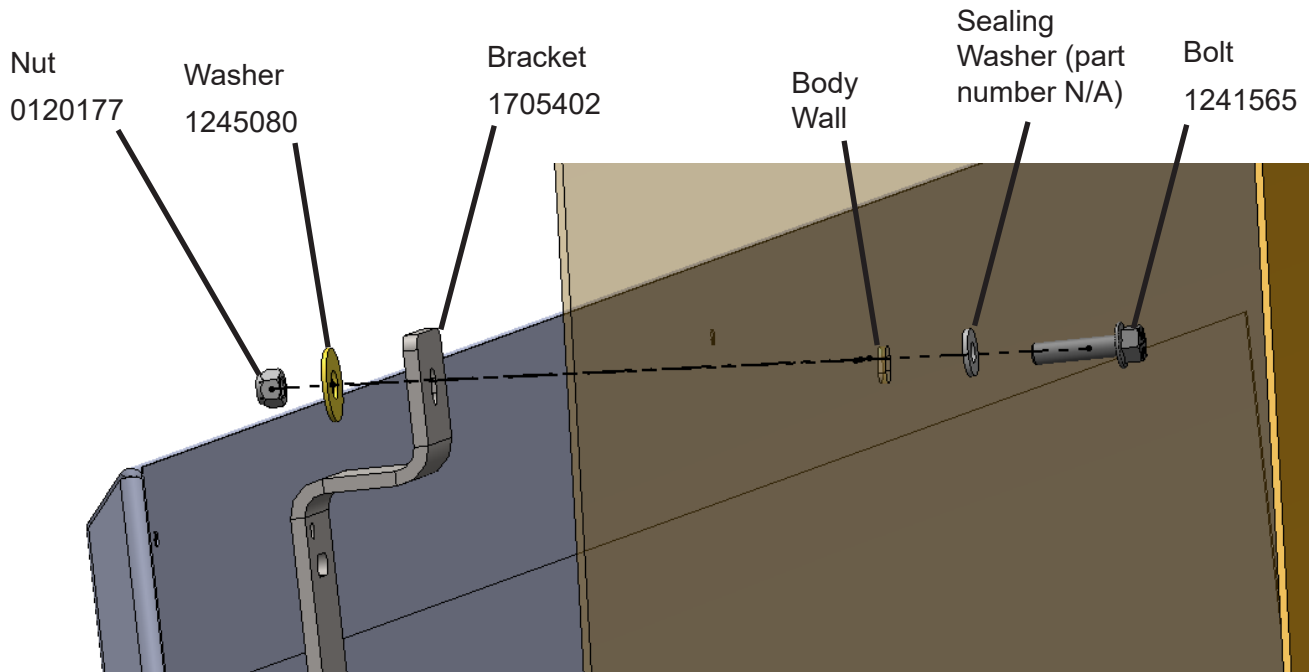

Figure 3
13. On the outside of the body, install the bracket (PN 1705402), metal washer (PN 1245080), and nut (PN 0120177) on each bolt. See Figure 3 for hardware installation order.